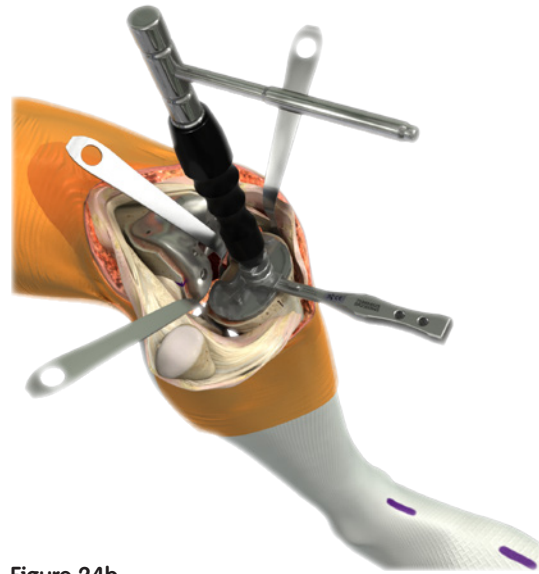
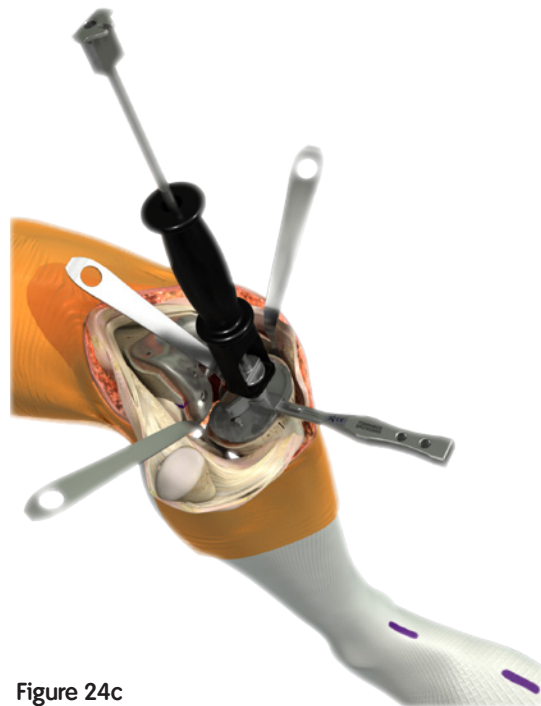

Figure 24b
Figure 24c
4. Select the appropriate Modular Fin Punch, attach it to the Modular Handle and prepare the keel. Keel punch through the baseplate (Figure 24b). To remove the keel punch, disengage the Modular Handle and then use the slap hammer to remove from the bone (Figure 24c).